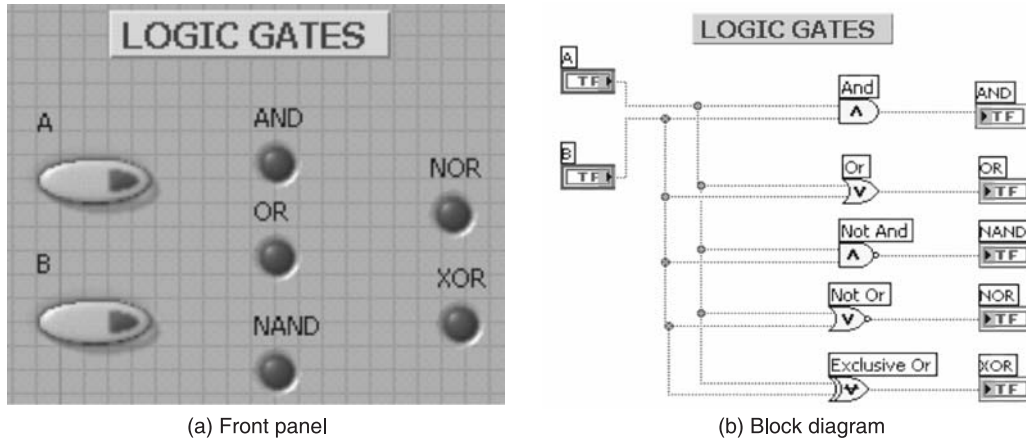

Figure P2.11
**Solution** The front panel and block diagram are shown in Figures P2.11(a) and P2.11(b) and the truth table for Boolean operations can be checked.